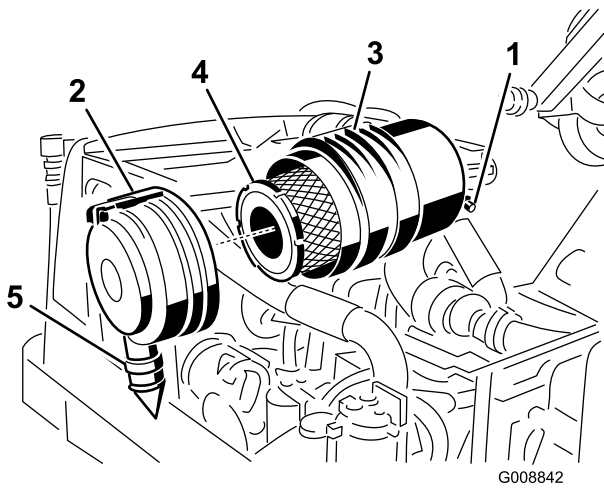
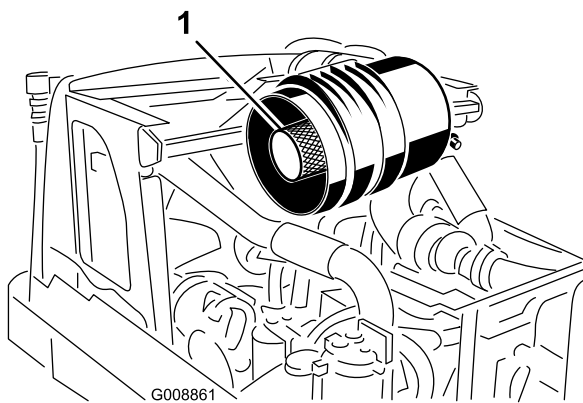

Figure 57
Figure 58
Service the air cleaner filter only when the service indicator (Figure 57). requires it. Changing the air filter before it is necessary only increases the chance of dirt entering the engine when the filter is removed.
1. Pull the latch outward and rotate the air cleaner cover counterclockwise (Figure 57).
2. Remove the primary filter (Figure 57). Cleaning of the used element is not recommended due to the possibility of damage to the filter media. Inspect the new filter for shipping damage, checking the sealing end of the filter and the body. Do not use a damaged element. **Do not** remove the safety filter (Figure 58).
Important: Never attempt to clean the safety filter (Figure 58). Replace the safety filter with a new one after every three primary filter services.
3. Replace the primary filter (Figure 57).
6. Install the cover orienting the rubber outlet valve (Figure 57) in a downward position - between approximately 5:00 to 7:00 when viewed from the end. Secure the latch.